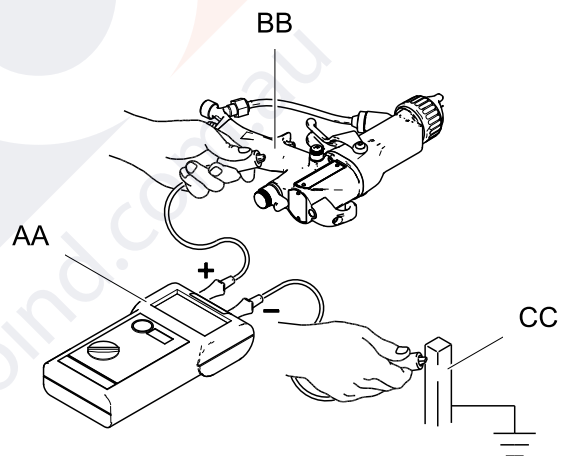

Figure 16 Check Gun Electrical Grounding
Megohmmeter Part No. 241079 (AA-see Fig. 16) is not approved for use in a hazardous location. To reduce the risk of sparking, do not use the megohmmeter to check electrical grounding unless:
2. Turn OFF (O) the ES On-Off switch.
5. Make sure the grounded air hose (AH) is connected and the hose ground wire is connected to a true earth ground.
6. Measure the resistance between the gun handle (BB) and a true earth ground (CC). Use an applied voltage of 500 minimum to 1000 volts maximum. The resistance should not exceed 1 megohm. See Fig. 16.